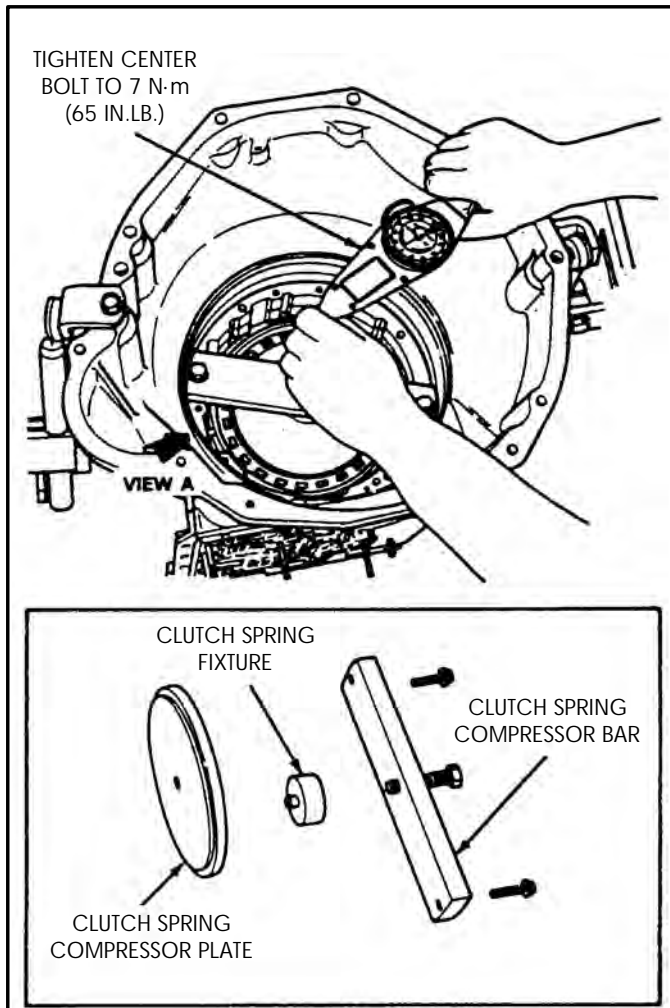

Figure 180
14. Place the snap ring into the case and install the clutch spring compressor tool 307-S223, as shown in Figure 180, and tighten the center bolt in the tool to 7 N·m (65 in.lb.).